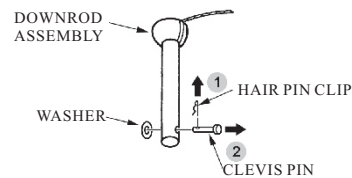

FIG. 7
1. Remove the hairpin clip & washer from the clevis pin and remove clevis pin from down rod. (See fig.7)